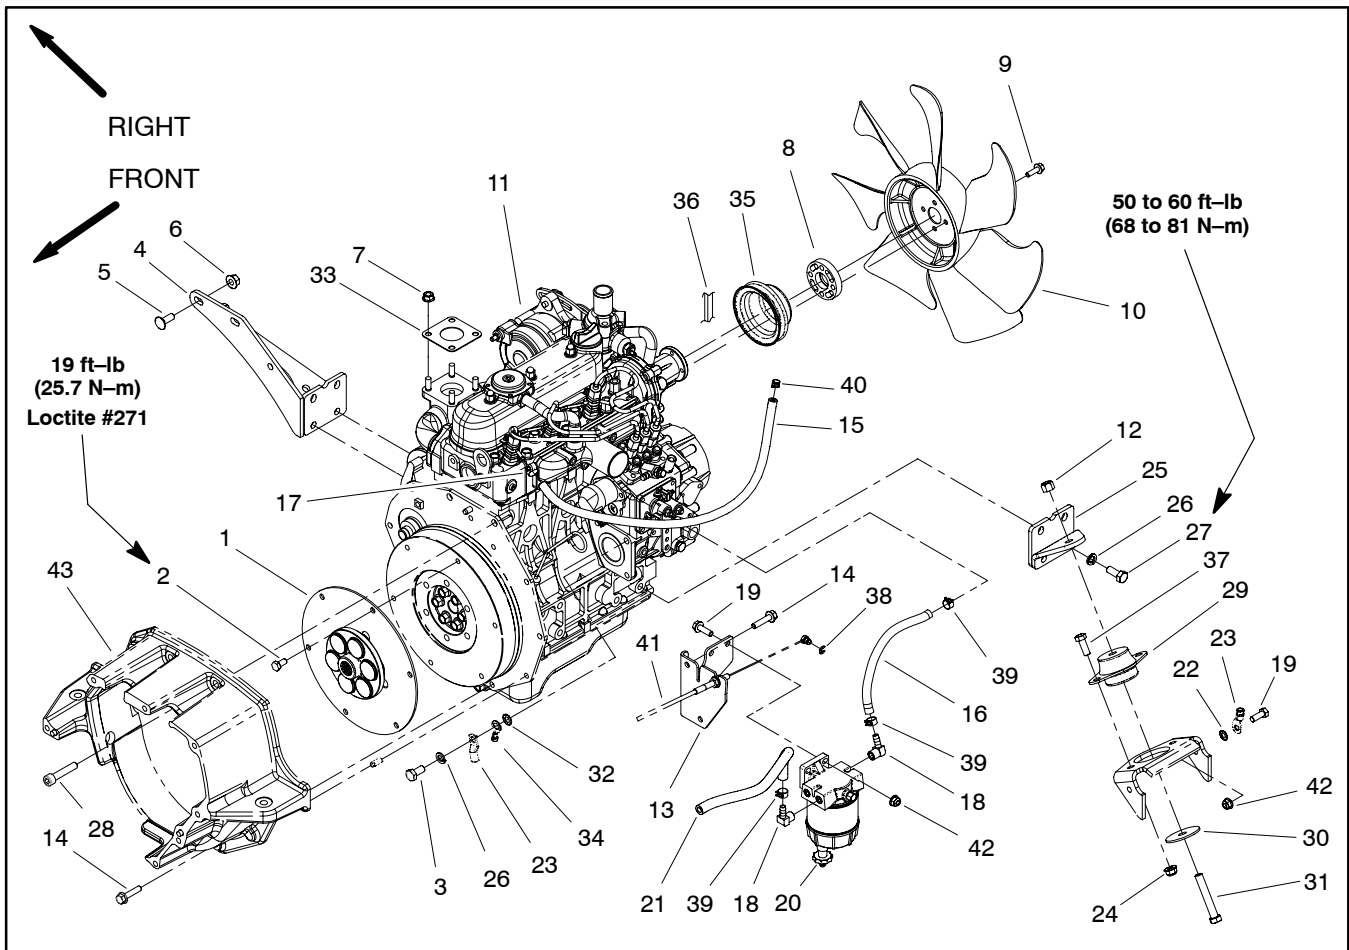

Figure 9
## Engine Removal (Fig. 9)
19. Locate and retrieve two (2) dowel pins that locate flywheel housing to engine.
20. If necessary, remove six (6) cap screws that secure flywheel coupling to engine flywheel and remove coupling from engine.
**Engine Installation (Fig. 9)**
3. If flywheel coupling was removed from engine, apply Loctite #271 (or equivalent) to threads of six (6) cap screws and secure coupling to engine flywheel. Torque cap screws **19 ft-lb (25.7 N-m)**.
4. Position two (2) dowel pins to engine endplate.